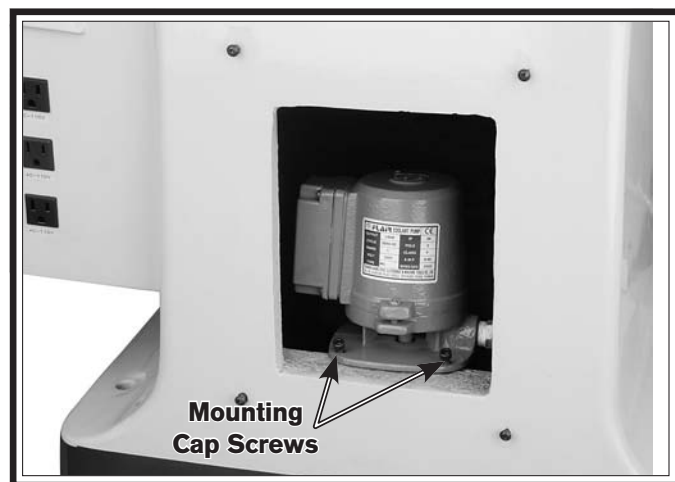

Figure 59. Location of coolant pump.
5. Remove the two pump mounting cap screws and move the pump out of the way (see **Figure 59**).